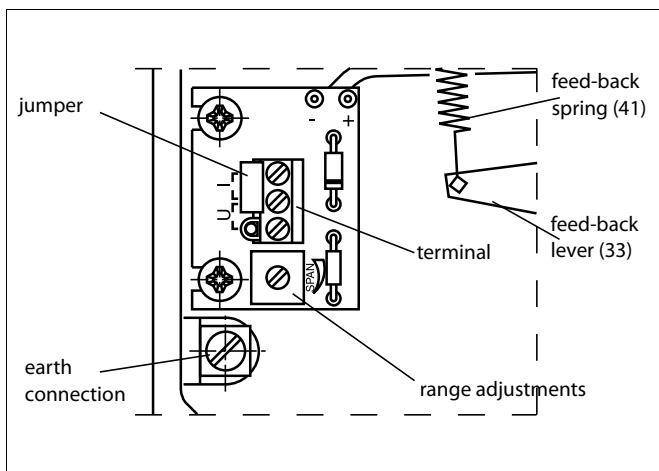

Fig. 6 Terminal card
Connect C1 and C2 (1/4 NPT) to the actuator according to Fig. 6.
Place a plug in connection C1 or C2. See Figure 6.
Figure 6 assists in choosing the right segment for the cam plate (29) and position for the changeover piece (46).
External changes in the tubes are not needed. Positioner NE727 is an exception (DIA6HC pilot valve). Then the changeover piece must always be in position R and the external tubes mounted in accordance with Fig. 6.
Choose the position of the changeover piece, D or R, from Fig. 6 in accordance with the function desired.
Choose the side, A or B, and the rising segment of the cam plate from Fig. 6 in accordance with the function desired.